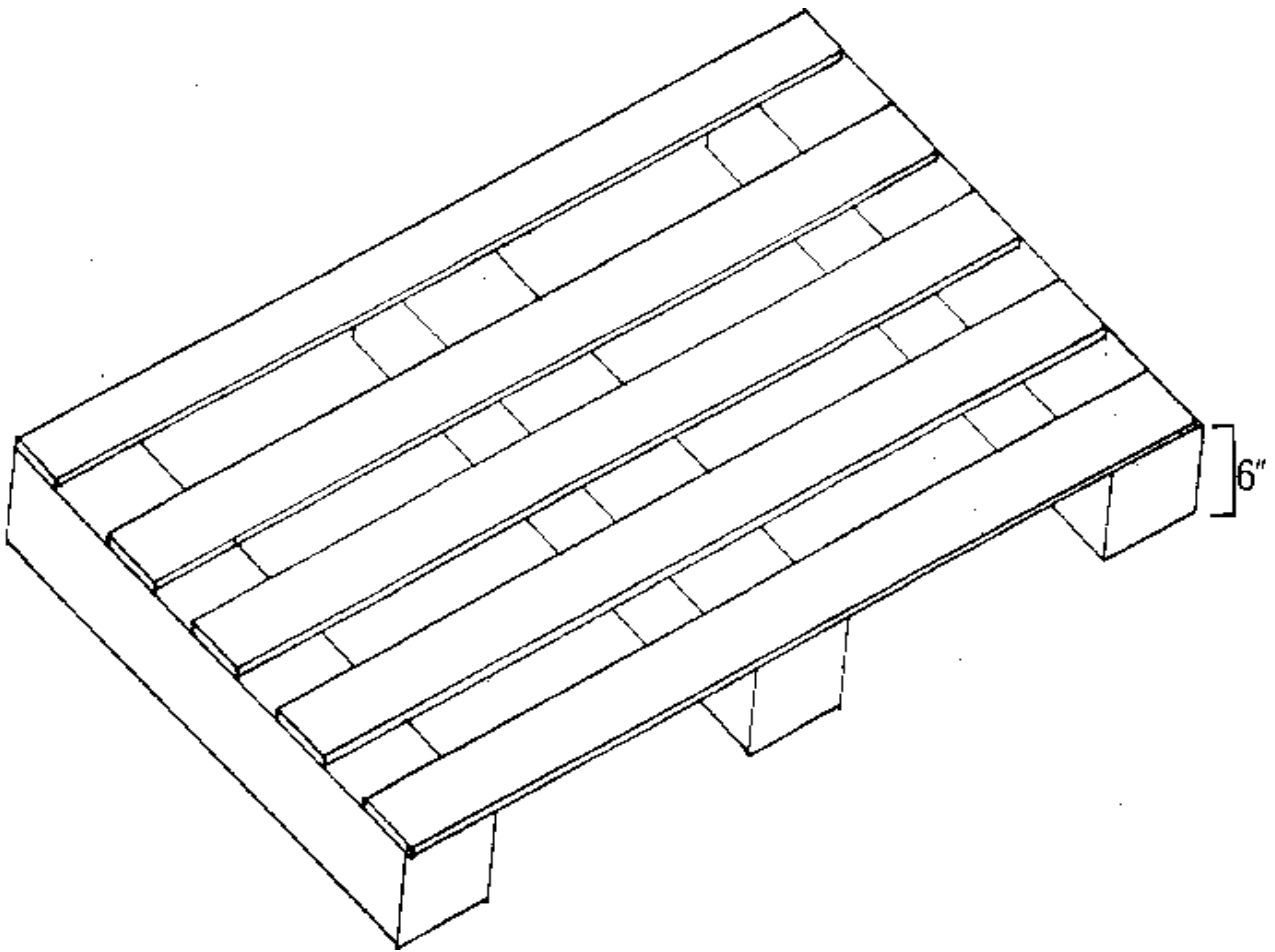

Fig. 23 Wooden Platform
- 2) The boxes can be stacked one above the other up to a maximum of FOUR nos. with a wooden platform as shown in Fig. 23 (WOODEN PLATFORM). We do not recommended usage of Tarpaulin for the floor.